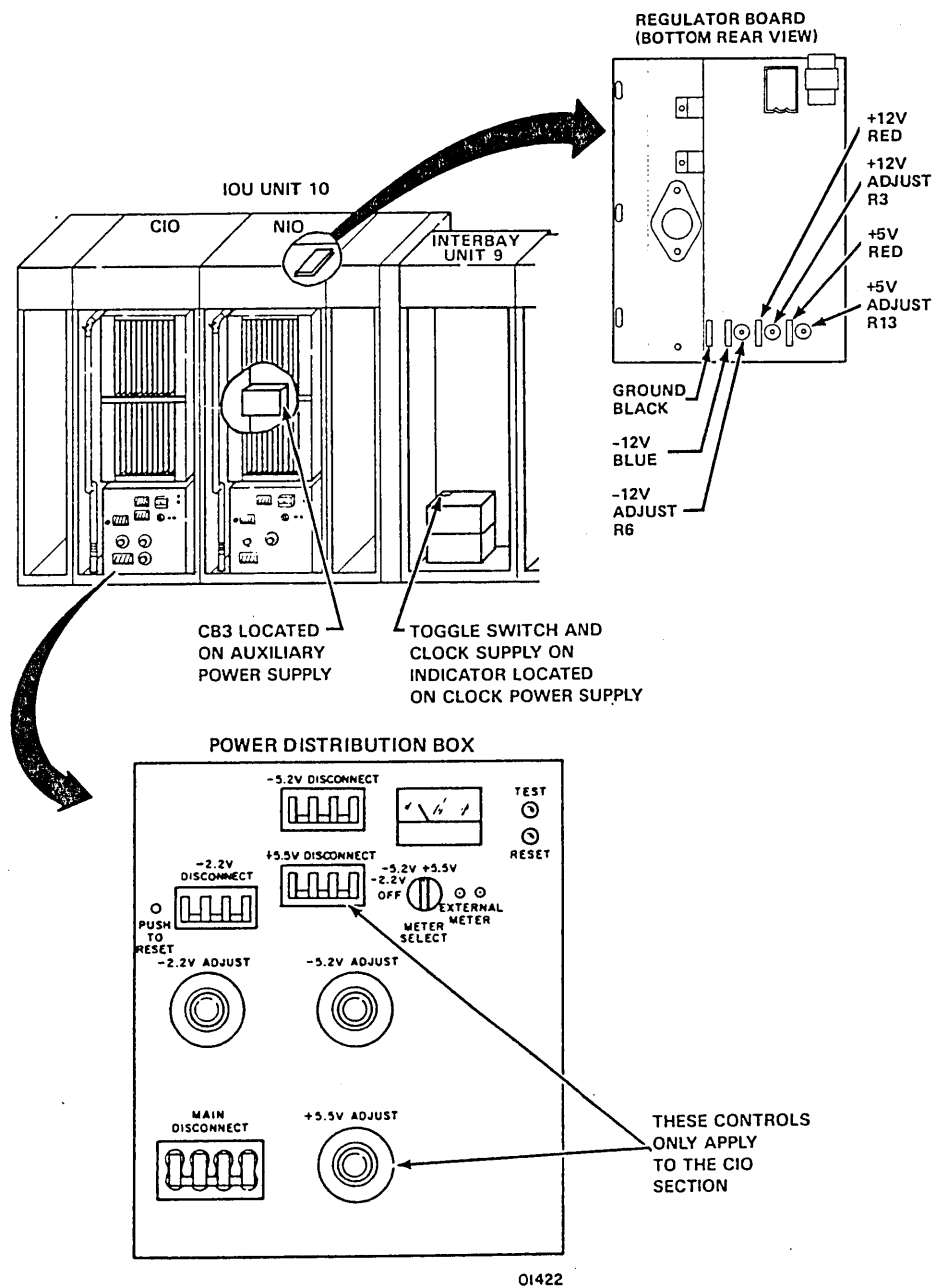

Figure 4-21. IOU Power Controls and Adjustments
- ___ 1. Set following circuit breakers and voltage adjust knobs on both NIO and CIO cabinets power distribution boxes (figure 4-21) as follows: